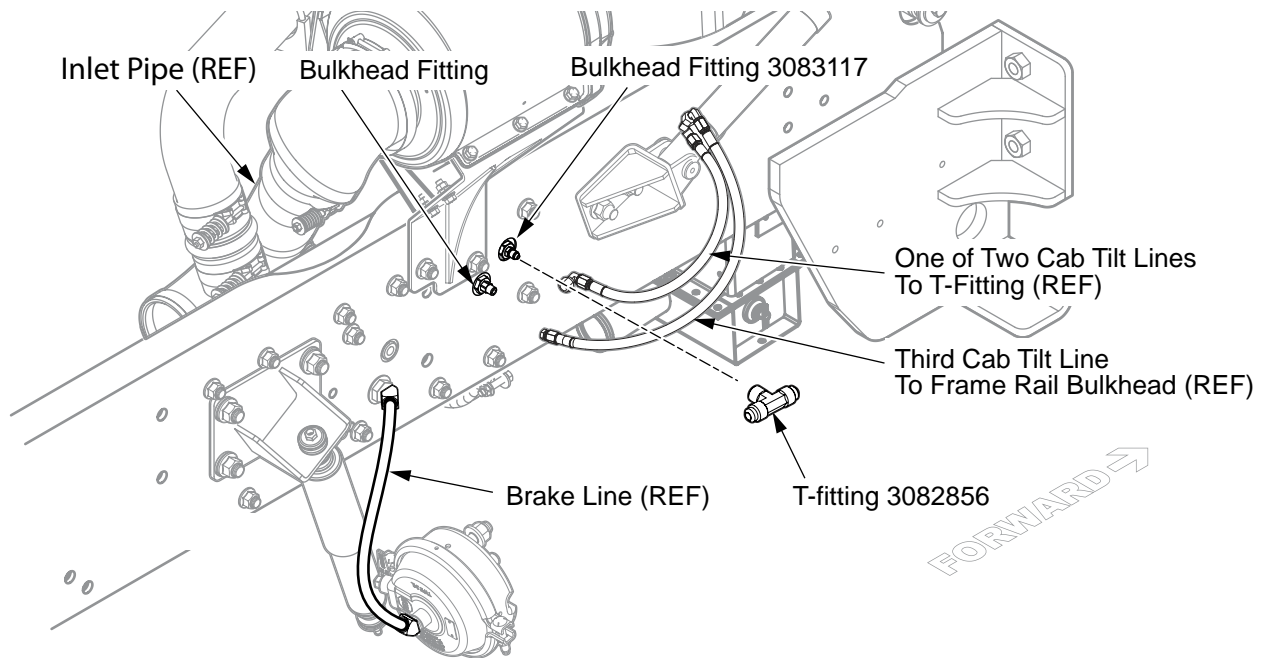
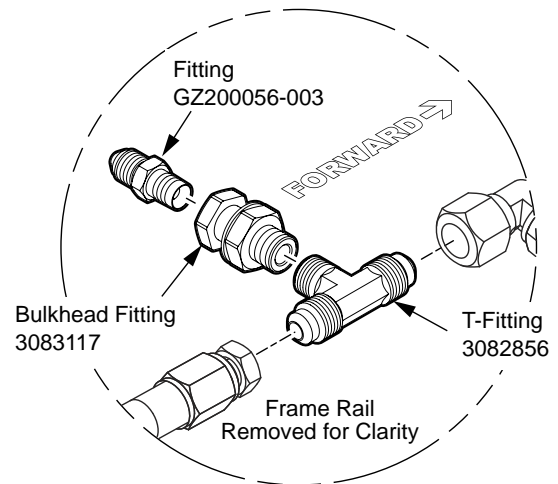

Figure 10
Figure 11
30. Using a 7/8" and a 3/4" combination wrench, install the new bulkhead fitting 3083117 that was supplied with the frame reinforcement hardware kit and tighten to 26 ft-lbs (35 N·m) of torque (see Figure 10).
31. Using a 7/16" combination wrench, install the new T-fitting 3082856, that was supplied with the frame reinforcement hardware kit, into the bulkhead fitting installed in step 23 (see *Figure 10* and *Figure 11*).
32. Using a 9/16" combination wrench, reconnect the two cab tilt lines that were reference marked and disconnected in step 4 (see *Figures 10* and *11*).
33. Install the third cab tilt line into the bulkhead fitting from which it was previously removed in step 5 (see *Figure 10*).
34. Using a 3/4" combination wrench, reconnect the brake line that was set aside in step 8 to the 45 degree fitting at the frame rail from which it was previously removed (see *Figure 10*).
35. Using a 13/16" combination wrench, Install the brake line into the brake chamber from which it was previously removed in step 7 (see *Figure 10*).
37. Using a 9/16" combination wrench, from the inboard side of the frame rail, install the new fitting GZ200056-003 into the new bulkhead fitting (see *Figure 11*).